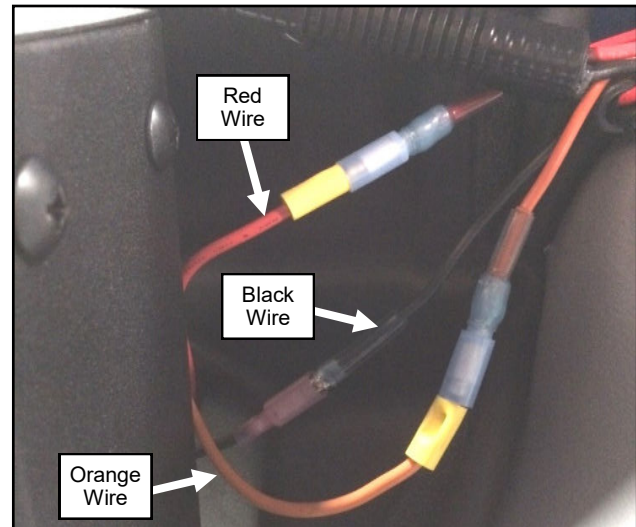

Fig. 18.1 (Heater Power Connections)
18.1 Connect the leads found on the heater to the main power wire harness (orange to orange, red to red & black to black). See Figure 18.1.